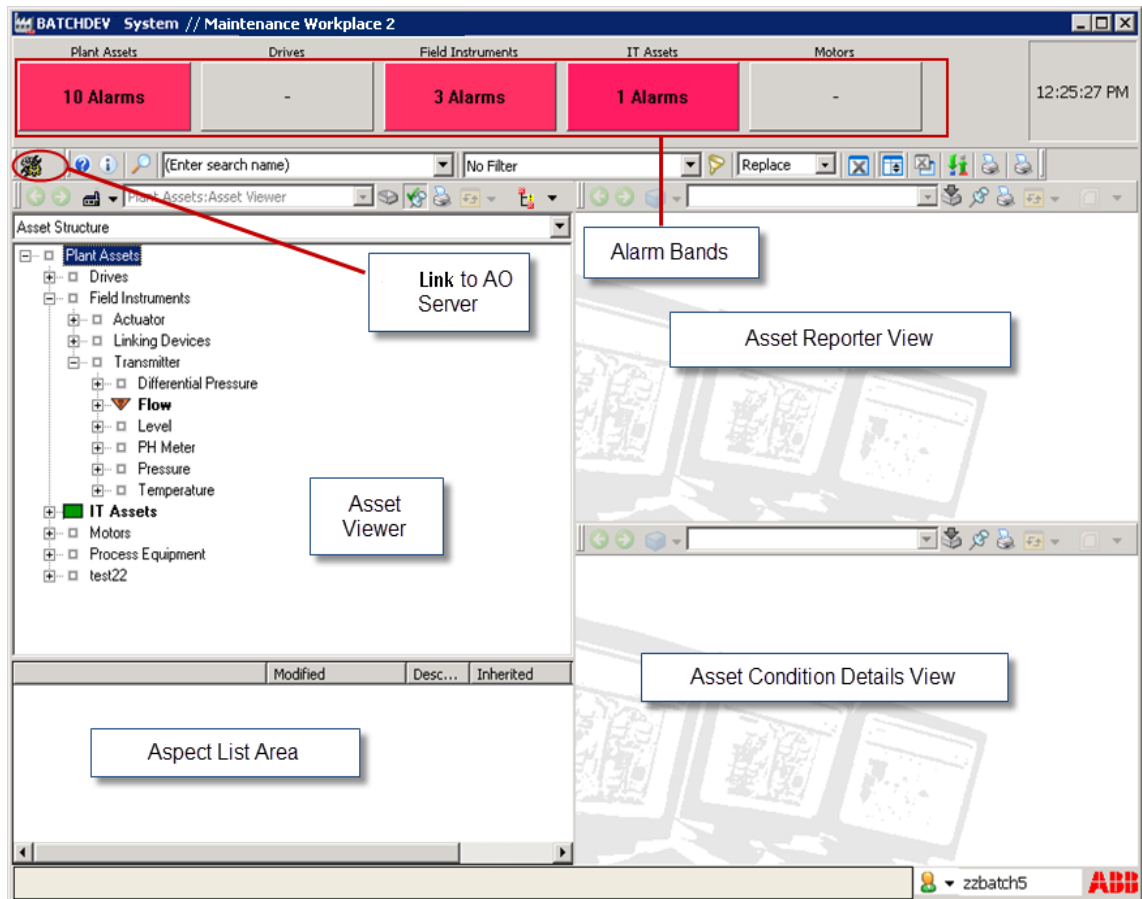

Figure 5. Maintenance Workplace 2 User Interface
The new Maintenance Workplace 2 User Interface (UI) and its layout is as shown in the Figure 5.